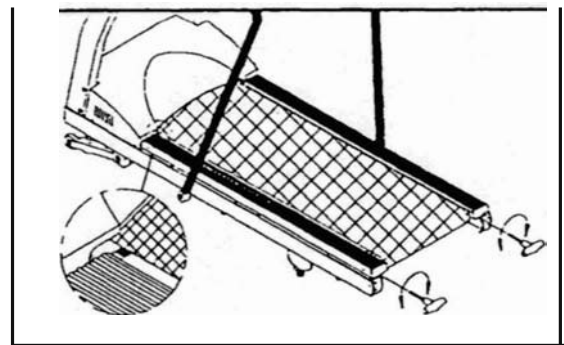

Fig.29
4. To make sure the running belt is aligned properly after you replace the running belt, please check the color gauge on the front of motor shroud. The left edge of the running belt should be in the middle of the green section ( safety zone). If the belt edge is in the red zone ( either in the left or right), this could damage the entire treadmill.(see Fig.29) Please refer to belt alignment on page 87 for more information.